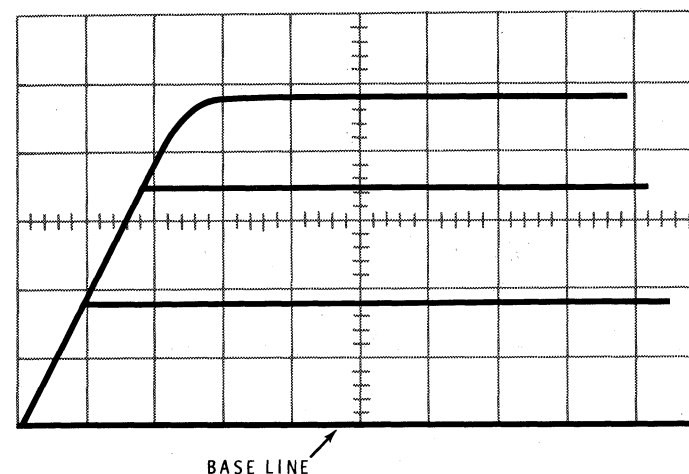

Figure 1-13
- () Slowly turn the STEPS/FAMILY control counterclockwise. Note that one by one, from the top down, the steps disappear until only the base line is left. Now adjust the control until three steps plus the base line appear. See Figure 1-13.